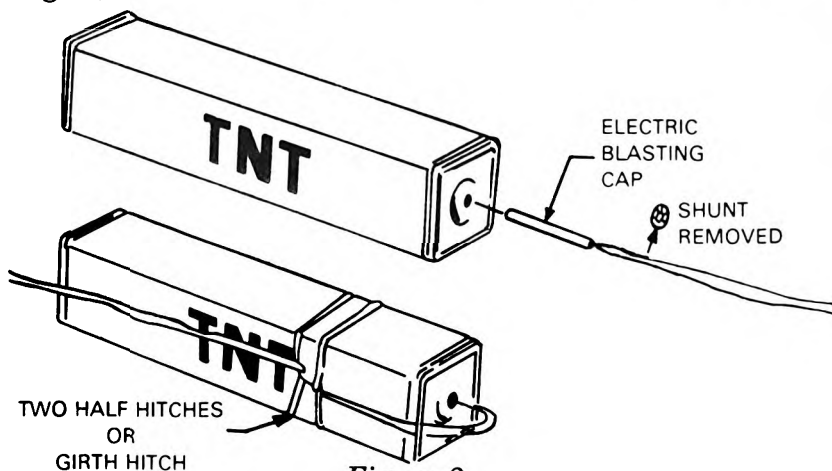

Figure 2.
2. To prime a demolition block with a threaded cap well and no priming adapter available (figure 2):